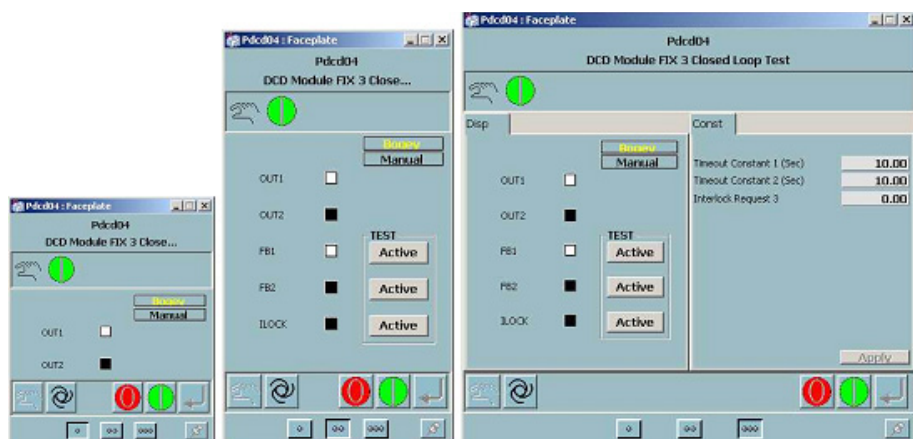

Figure 185. DCD Module
**Discrete Control Device (DCD).** The Discrete Control Device module faceplate represents a device driver function block in an 800xA for DCI controller. The DCD module provides up to 2 On or Off signals (On = one, Off = zero) for controlling a process device. A DCD tag is required to both monitor and change the outputs provided by the module from the operator workspace. The DCD module reports the current states, two feedback states, interlock state, override status, mode, time delay constants, device state legends, alarm status, and quality used for display in the faceplate. Figure 185 shows the layout of the DCD reduced, normal, and extended sized faceplates and their attributes.